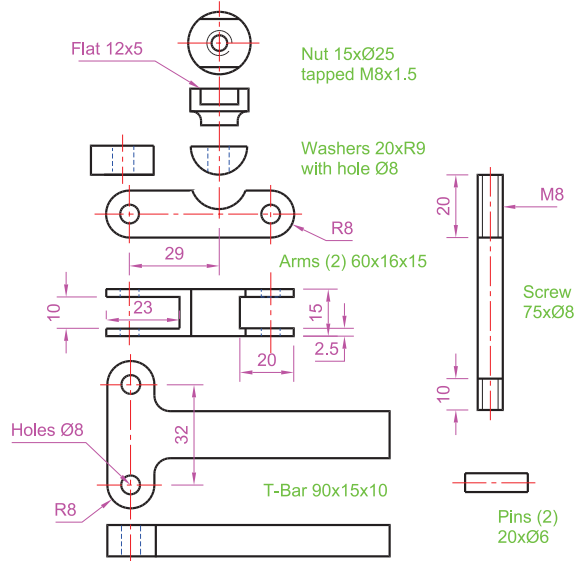

Fig. 14.1 The components of a lathe milling wheel holder
1. Construct 3D models of the parts for a lathe milling wheel holder to details as given in Fig. 14.1, each on a layer of different colours.
2. Save each of the 3D models of the parts to file names as given in Fig. 14.1 as blocks using **Create** from the **Blocks & Reference/Block** panel. Save all seven blocks and delete the drawings on screen. Save the drawing with its blocks to a suitable file name (**Fig01.dwg**).